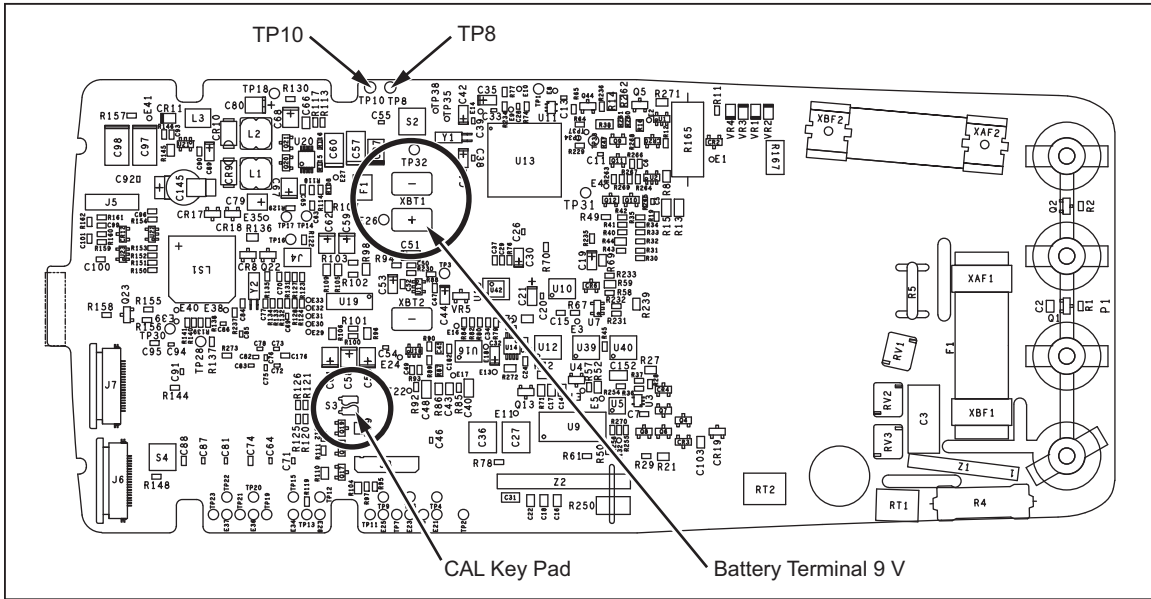

Figure 3. PCA Component Location
2. Locate the PCA Battery Terminals as shown in Figure 3. Observing correct polarity, use an external lab supply or battery to apply 9 volts to the PCA battery terminals. TP8 and TP10 can also be used to apply power to the PCA.
4. Locate the PCA CAL key pad as shown in Figure 3.